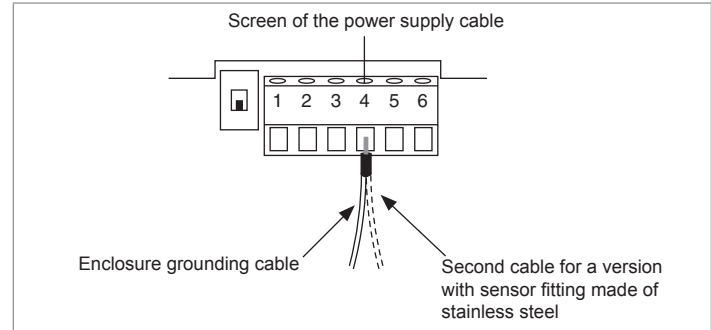

Figure 11: Terminal strip for grounding connection
- Connect the screen of the power supply cable with terminal No. 4 of the terminal strip on the electronics board inside the enclosure (Figure 11). The version with stainless steel sensor has a second cable from the sensor.